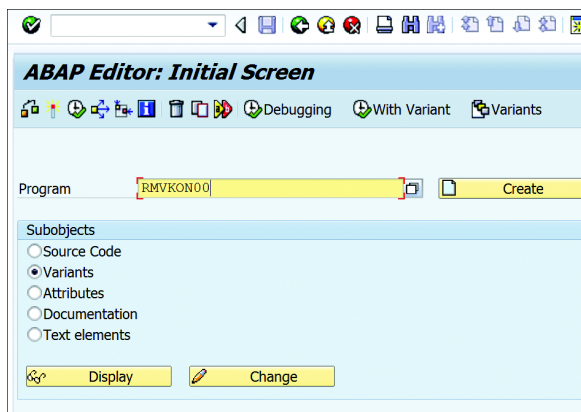

Figure 14.1 Create/Change Variant from ABAP Editor: Initial Screen
1. To create or change a variant, from the ABAP Editor initial screen enter the program name, select the VARIANTS radio button under SUBOBJECTS, and click CHANGE, as shown in Figure 14.1.